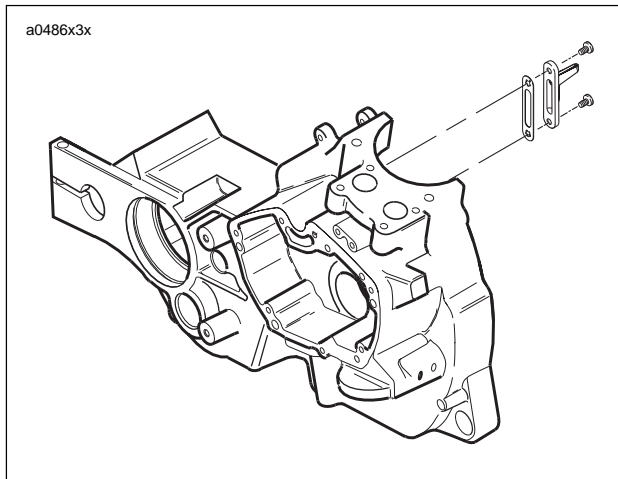

Figure 3-125. Piston Oil Jet Assembly
1. See Figure 3-125. Remove two TORX screws from piston jet assembly to remove piston jet from right crankcase.